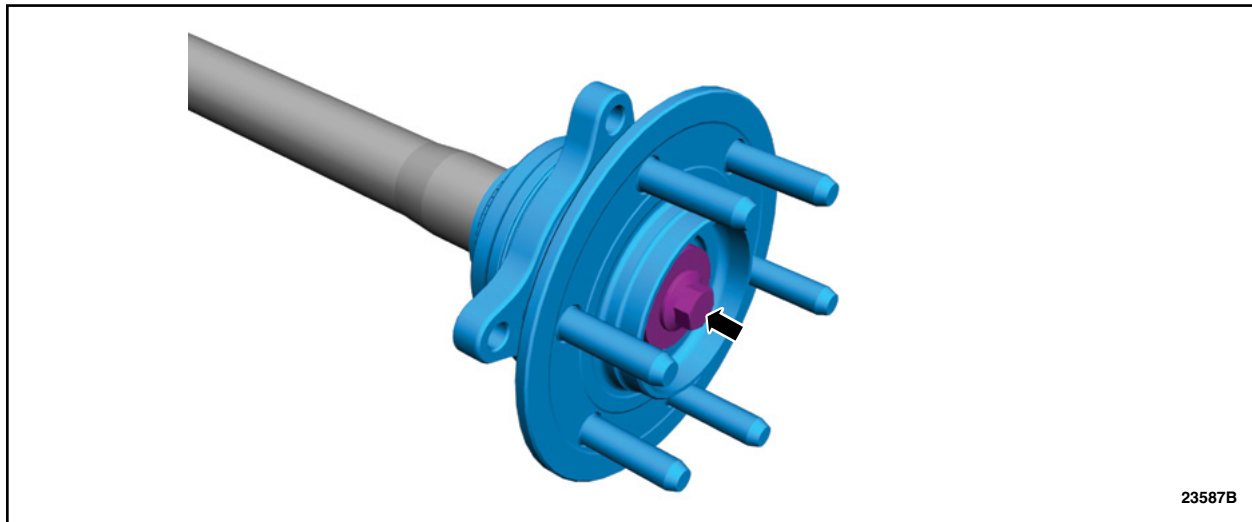

FIGURE 1
3. On both sides, locate the rear wheel end hub bolt. See Figure 1.